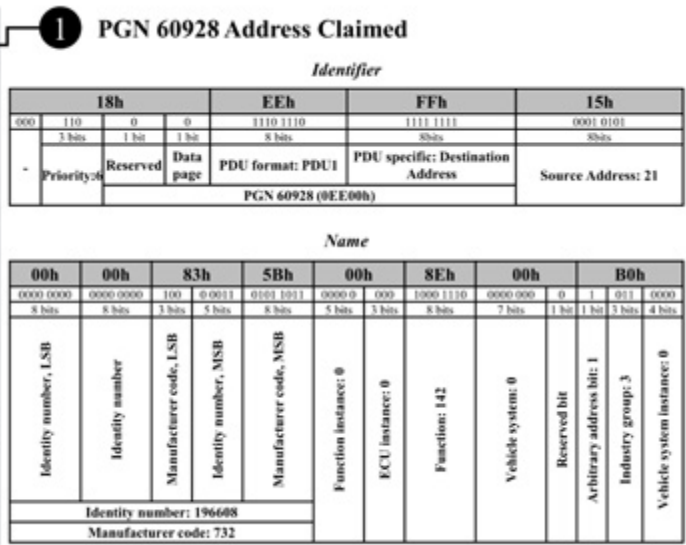

Figure 7. Example: Address Claimed message.
- When the sensor is turned on, it sends an Address Claimed message according to PGN 60928 as shown in the example of Figure 7 a pagina 10. The message is composed of: